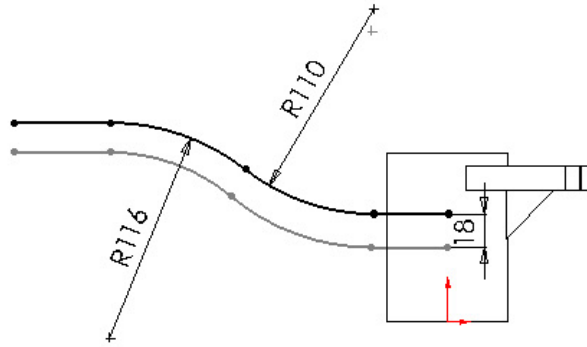

Figure 8 Sweep guide curve.
7. Sketch and dimension the sweep guide curve as shown in Figure 8.